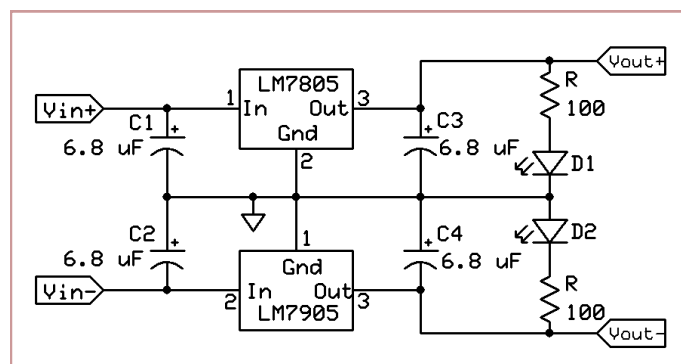

Figure 15. Dual supply with LEDs.
3. Connect two red LEDs to the outputs of the dual supply. This is shown in Fig. 15. If red is not available use either yellow or green. The LED current will be around 30 mA so you may not want to leave this circuit on for a long time as it is at its maximum rating. The exact current isn't critical, rather we're using LEDs to represent a load. If you hooked up the circuit correctly the LEDs will light up.